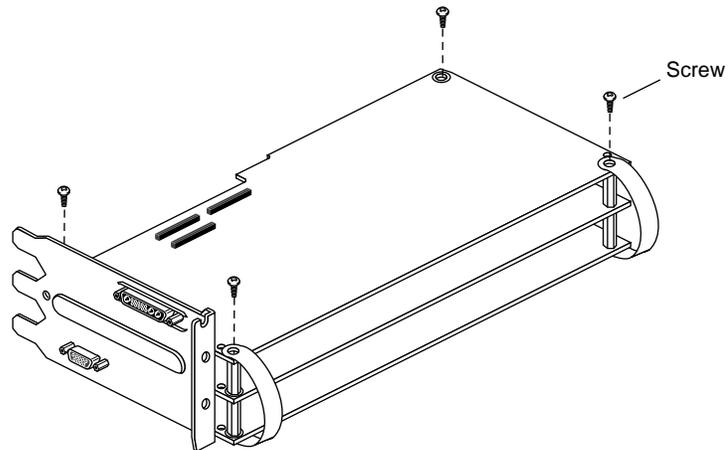

Figure 1-33 Attaching the Pull Straps
8. Attach the pull straps on the top of the graphics board set. See Figure 1-33.